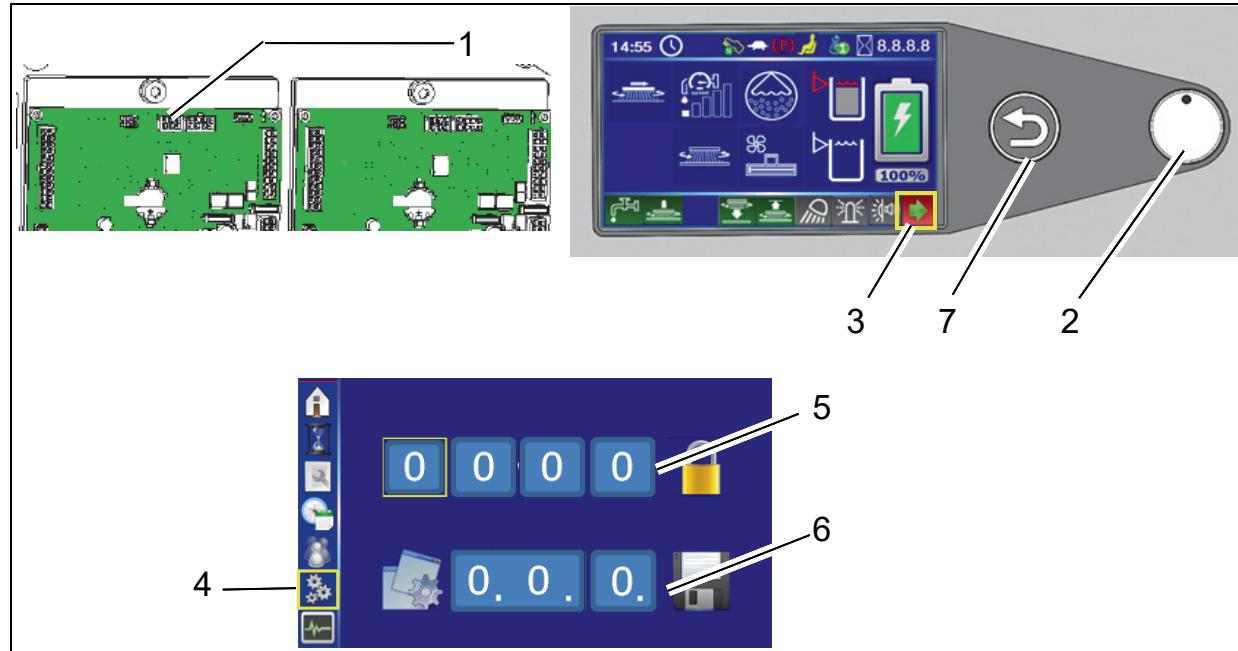

Fig. 4
Plug diagnostic connector into slot X20 of controller A1 (Fig. 4/1).
2. Select the arrow soft key (Fig. 4/3) on the control panel using the turn-push knob (Fig. 4/2) and press to access the sub-menu.
3. Select the configuration menu in the sub-menu (Fig. 4/4).
4. Enter the 4-digit code in the configuration menu at the top (Fig. 4/5):
In the configuration menu at the bottom (Fig. 4/6), set the value of the option and save by pressing the turn-push knob. After confirming the last digit, OK? appears. Press the turn-push knob again to save the value. Saved value is displayed in green. If the value is not to be saved, exit menu using the return key (Fig. 4/7).